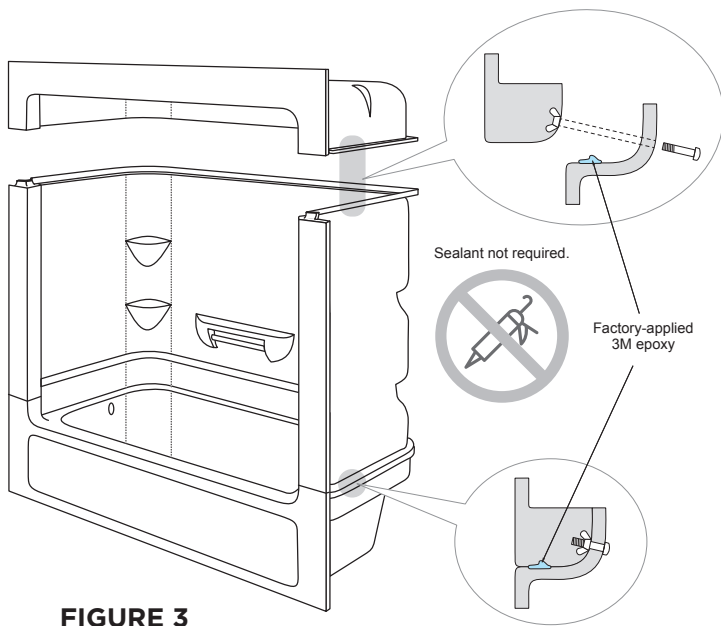

FIGURE 3
2. Sectional units that have been disassembled must be reassembled before the unit is installed in the alcove. Assemble the unit with the same stainless steel screws that the pieces were originally fastened with. Do not overtighten. **Sealant is not required.** (**Figure 3**)